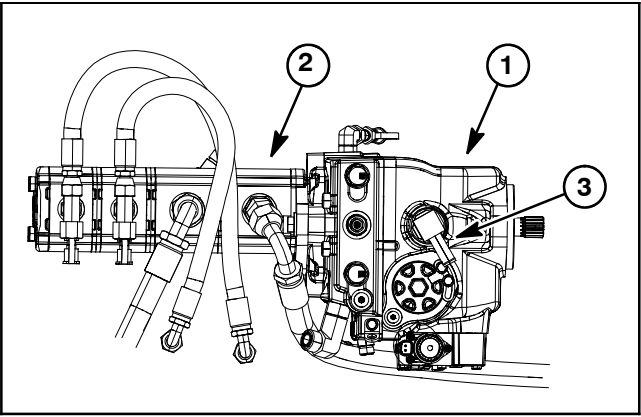

Figure 57
6. Align gear teeth and slide gear pump input shaft into piston pump shaft. Secure gear pump to piston pump with two (2) cap screws and flat washers.
8. Fill piston pump housing through case drain (90° barbed fitting) with new hydraulic oil (Fig. 57). This will ensure that internal pump components have adequate lubrication during initial operation.